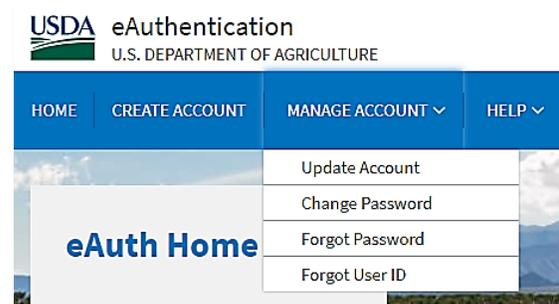

Figure 2. Recover eAuth User ID or Password
3. Choose "Forgot Password" or "Forgot User ID" as needed and follow the prompts. (Figure 2)